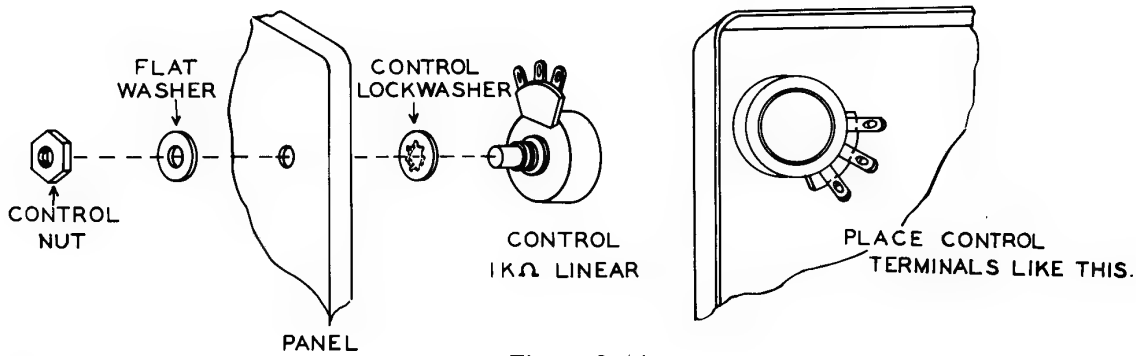

Figure 3-14
- (/) Mount the $1000\ \Omega$ control next to the words "OHMS-ADJ", with terminals as indicated by Figure 3-14. Attach the small black knob to the shaft.